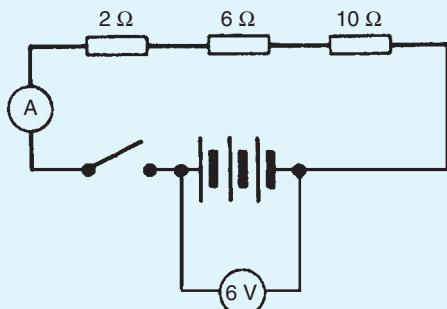

Figure 5.43
6. With the switch in Fig. 5.43 closed the ammeter reading will indicate:
7. A  $6\ \Omega$  resistor is connected in parallel with the three resistors of Fig. 5.43. With the switch closed the ammeter reading will indicate: